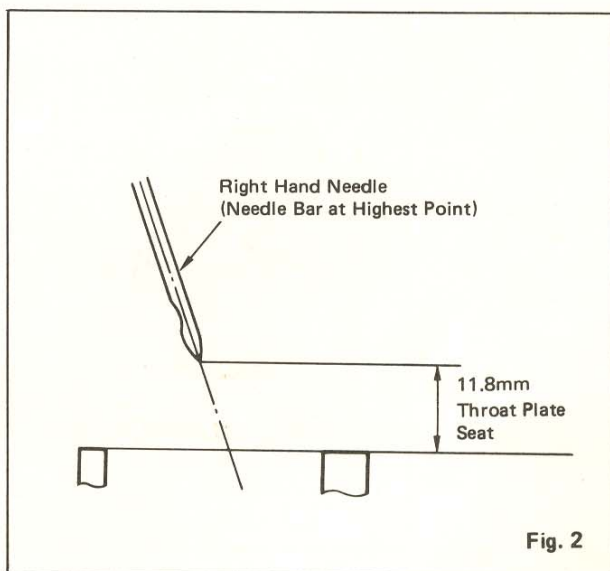

Fig. 2
- With size No. 14 needle set in needle bar, and using service gage set height of needle bar by moving needle bar up or down as required until correct height is obtained, see Fig. 2.